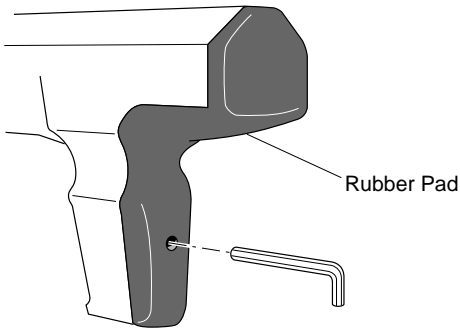

**Figure 4 - Removing Piston From Piston Sleeve**
6. Remove piston assembly from piston sleeve (see Figure 4).